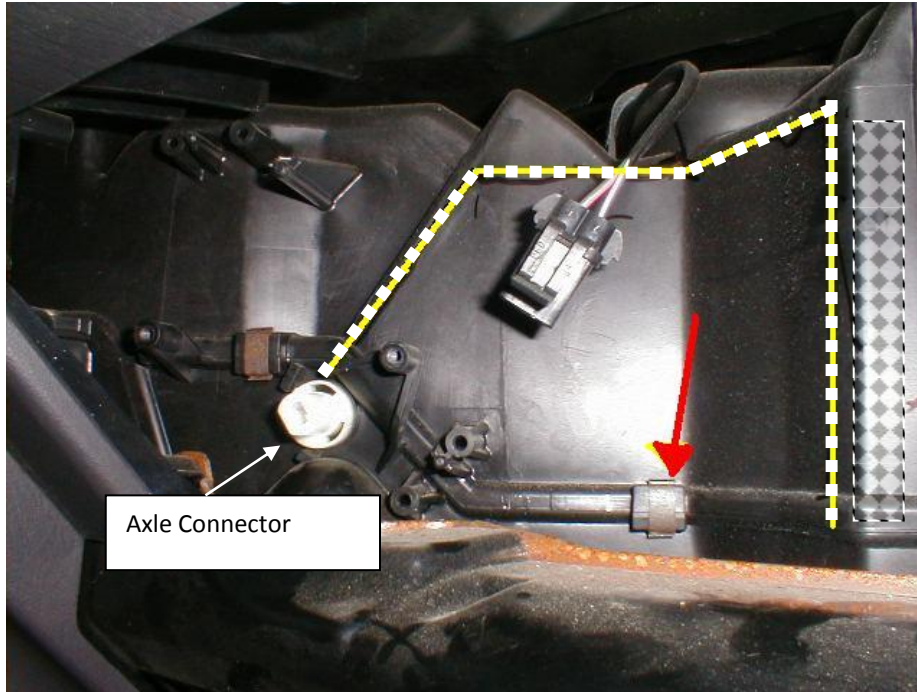

Fig. 1
5. Remove the spring clip indicated by the arrow in Fig.1. Save for re-installation. Later models will have a Phillips screw in place of the clip.
6. Mark and cut an opening in the heater box using the dotted line in Fig.1 as a guide. The white highlighted box to the right of the pattern in Fig. 1 shows the location of the AC condenser inside the box. Make sure the cut is to the left of the corner and keep the cutting tool facing toward the front of the vehicle. When making the cut, try not to plunge the cutting bit too far into the box as it could hit the Heater Core (it is very difficult to do this but possible). Later models (Overland in particular) may have a wire and connector in the area where the cut is made. This is a temp sensor that routes into the box. The connector lifts straight up and can be moved out of the way. Make a note of how it is positioned and where it enters the box so that you can re-assemble it correctly.
8. Remove the white axle connector shown in Fig. 1 with pliers. Remove the old blend doors.